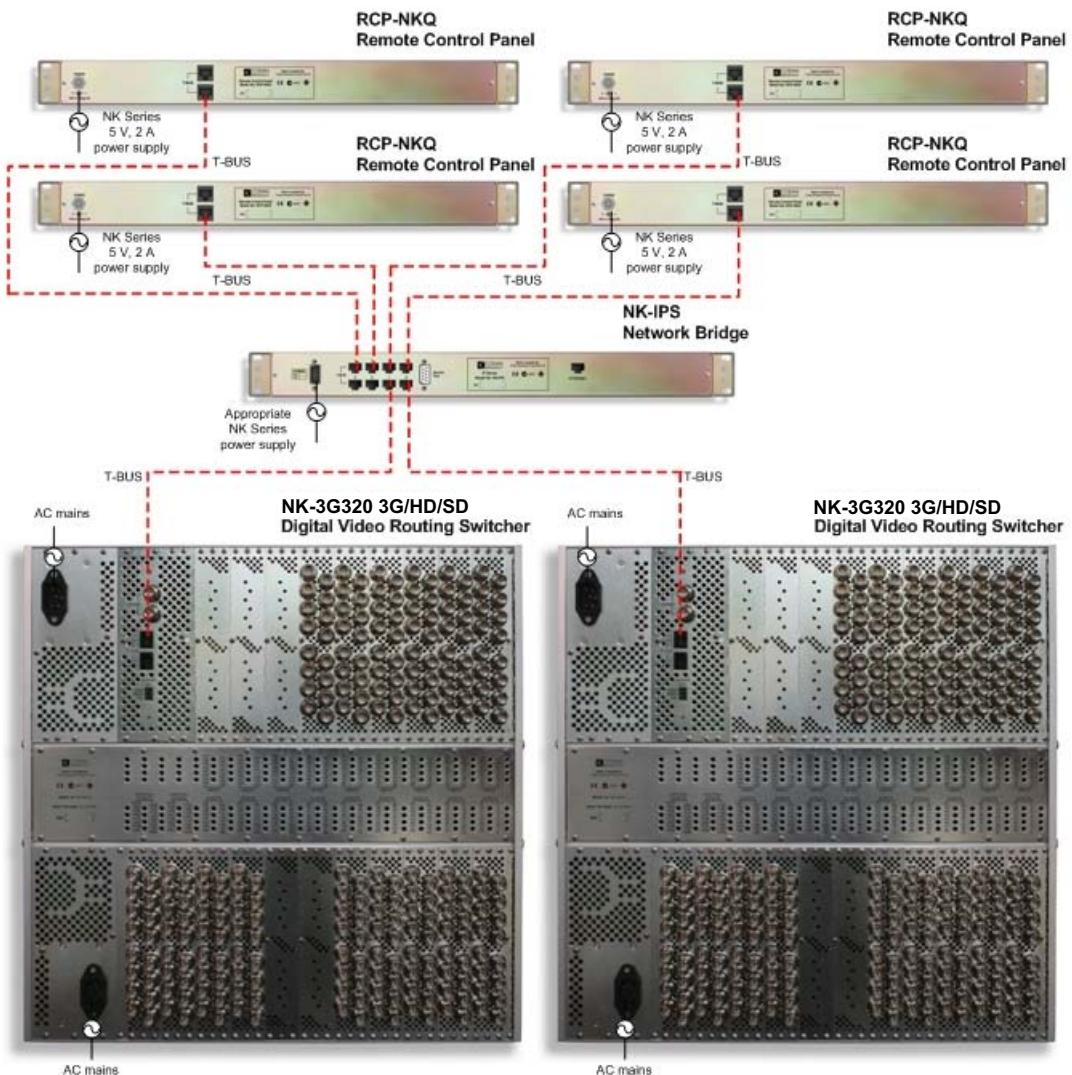

Figure 3.2 NK Series Equipment in a Star Layout
3. Connect a straight-through CAT5 cable between a **T-BUS** connector on the rear panel of the equipment and a **T-BUS** connector on the rear panel of the NK-IPS (see **Figure 3.2**).